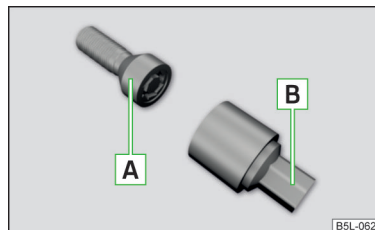

Fig. 173
The anti-theft wheel bolts protect the wheels from theft. This can only be **B** with attachment » **Fig. 173** loosened / tightened.
- Insert the attachment **B** » **Fig. 173** as far as it will go on the anti-theft wheel bolt **A**.
- ▶ Insert the wheel wrench onto the wheel bolt to the stop. Use the associated attachment for the anti-theft wheel bolts » Fig. 173 on page 157.